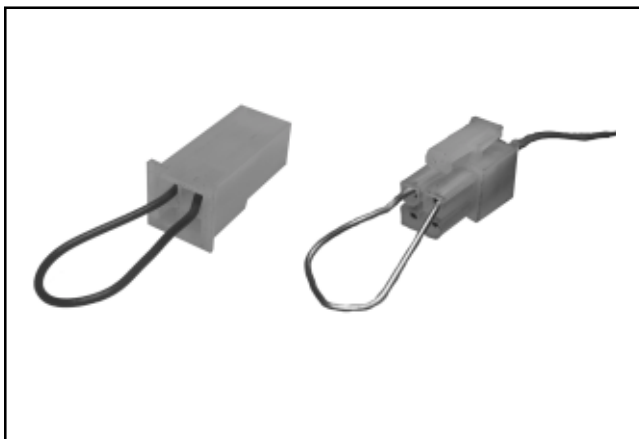

Figure 5B-7. Service Connector Plug, Plastic Cased ECU Harness.
7. Locate the service connector plug in the wiring harness. Connect a jumper wire from the TPS initialization pin (violet wire) to the battery voltage pin (red wire), or use jumper connector plug (SPX Part No. KO3217-9). See Figure 5B-7.